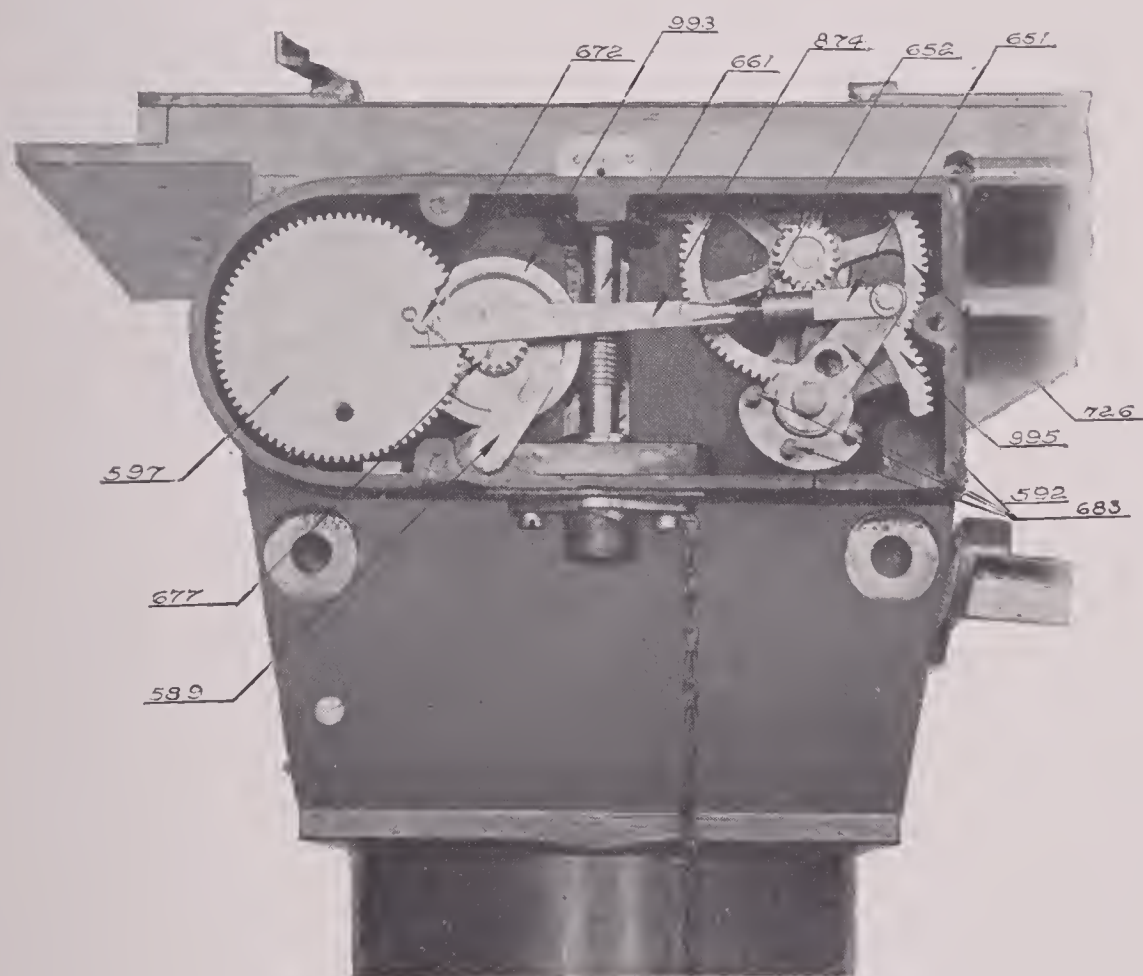

Figure 7
50. The plates drop out of the top magazine into hole cut in this carrier which is arranged to rest in a position directly above the exposure aperture. This carrier is operated by gear wheels engaged with toothed racks attached to each side of the carrier, which moves the plate from the exposing position to the opening immediately over the receiving magazine. The gear wheels are revolved by a quadrant gear 995 shown in Fig. 7.
54. Referring first to Fig. 7.